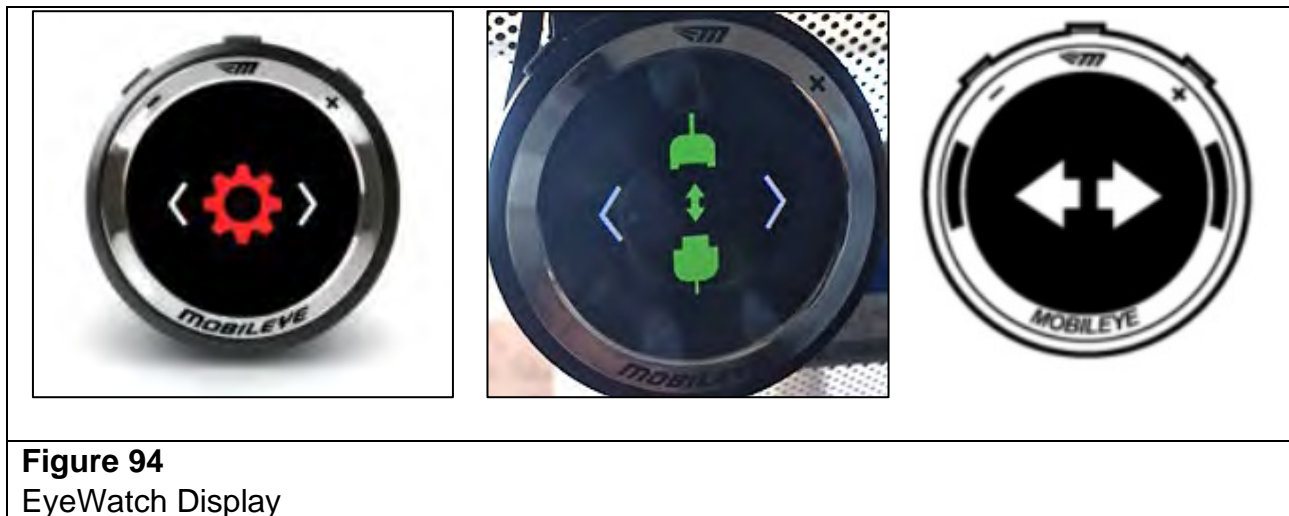

Figure 94
106. Press the (+) button on the Mobileye EyeWatch display until it beeps, continue to hold the (+) button and press the (-) button on the display for ~2 seconds until the red gear appears. (See Figure 94.)
107. When the red gear appears, press (+), When the green connectors appear press (M). Move the turn signal lever turn left, and then to the right, verify double arrows appear on the display each time as shown. (See Figure 94.)